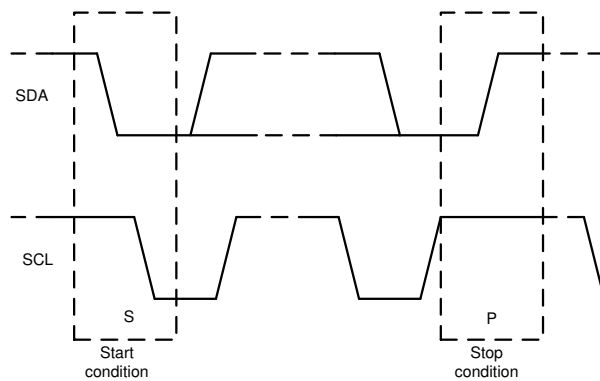

Figure 8-4. Start and Stop Conditions
1. The master initiates data transfer by generating a start condition. The start condition is when a high-to-low transition occurs on the SDA line while SCL is high, as shown in Figure 8-4. All I²C-compatible devices recognize a start condition.
4. To signal the end of the data transfer, the master generates a stop condition by pulling the SDA line from low-to-high while the SCL line is high, as shown in Figure 8-4. This action releases the bus and stops the communication link with the addressed slave. All I²C-compatible devices recognize the stop condition. Upon receipt of a stop condition, the bus is released, and all slave devices then wait for a start condition followed by a matching address.